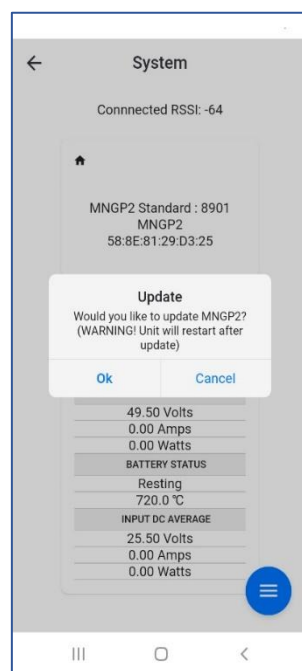

Figure 23
8. FW app will appear as shown in **Figure 23**, select OK.